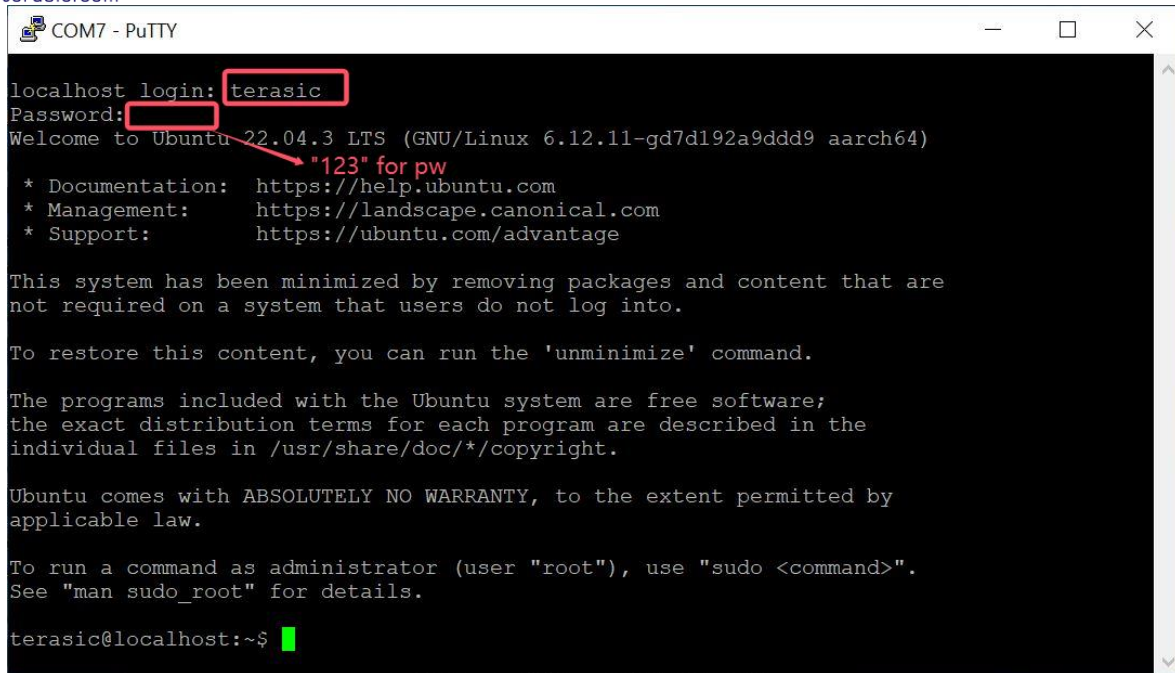

Figure 5-9 PuTTY Window
4. Please type **terasic** for account name and **123** for the password to login Ubuntu (See **Figure 5-9**).